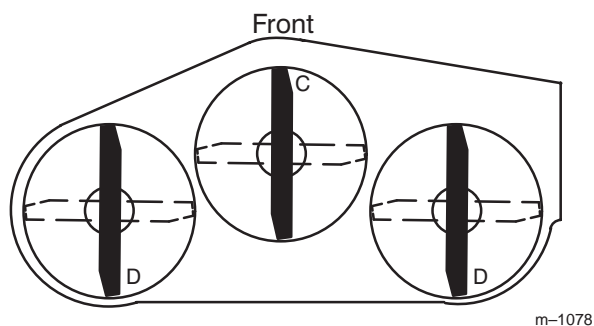
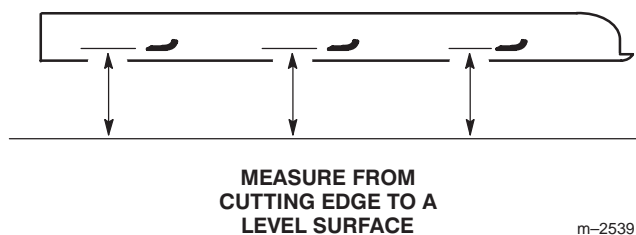

Figure 17
Figure 18
2. Position the blades front-to-rear (Fig. 17). Measure at **C** and **D** locations (Fig. 17) from a level surface to the cutting edge of the blades (Fig. 18).